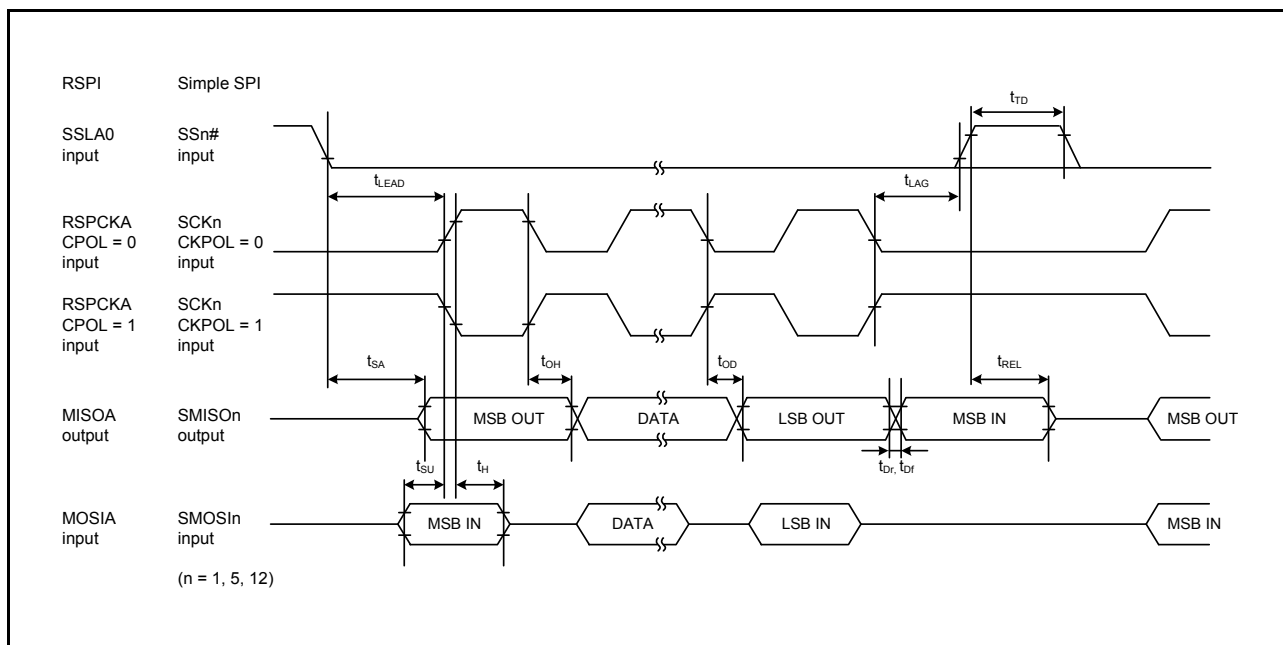

Figure 5.51 RSPI Timing (Slave, CPHA = 0) and Simple SPI Timing (Slave, CKPH = 1)
91	Table 5.38 A/D Conversion Characteristics (1), Figure 5.51 AVCC0 to AVREFH0 Voltage Range, changed